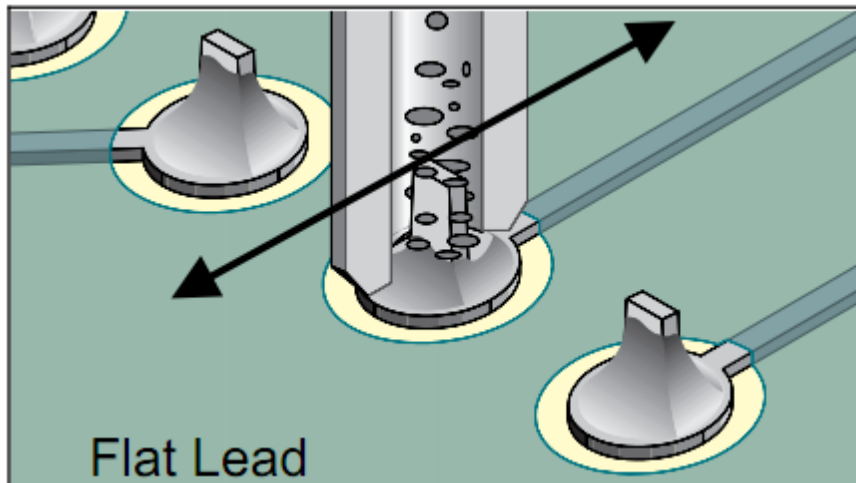

Figure 4 Move Lead & Apply Vacuum
- h) For a flat lead, move lead back and forth; for a round lead, use a circular motion and apply vacuum while continuing lead movement. (See Figures 4&5.)